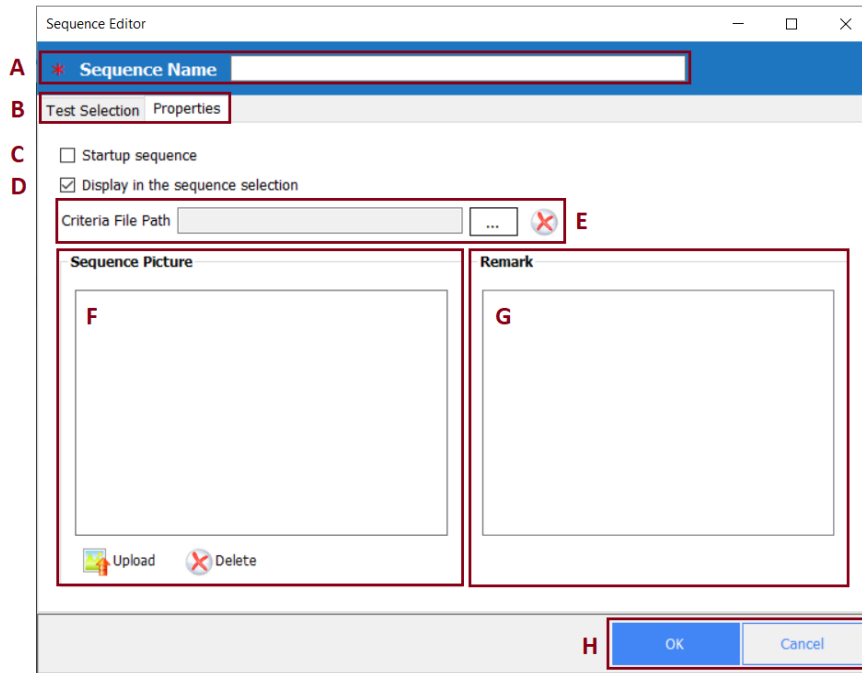

Fig 9-3 Sequence Editor window – Properties tab
2.1. Enter the sequence name (Required) - if it is not already defined - Fig 9-3 \(A\).
2.2. Select Properties tab - Fig 9-3 \(B\)
2.3. Startup sequence – Select the checkbox to set the sequence as a startup sequence - Fig 9-3 \(C\)
Select the checkbox (Fig 9-3- D) to display the sequence in the sequence selection window Fig 6-3.
1. Click  (Fig 9-3 - E)
The criteria file is displayed in the rubric (Fig 9-3 - E)
▪ Click  button - Fig 9-3 \(F\), the **Open** screen will open.
The picture is displayed in preview window Fig 9-3 \(F\)
From the picture buttons Fig 9-3 \(F\), click .
Fig 9-3.
- Startup sequence – Select the checkbox (Fig 9-3- C) to set the sequence as a startup sequence.
- Display in sequence selection – Select the checkbox (Fig 9-3- D) to display the sequence in the sequence selection window Fig 6-3.